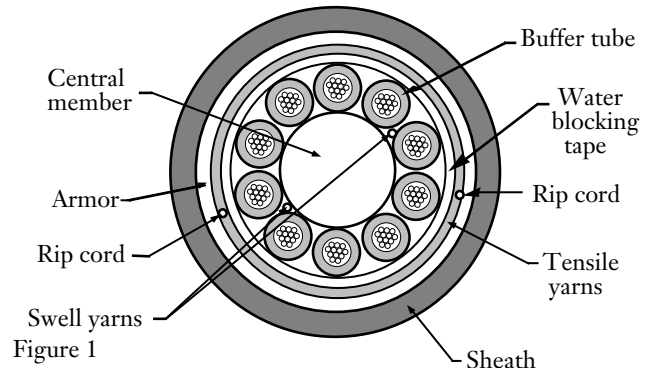

Figure 1
**1.3** Two versions of the cable are available: standard armored ALTOS cable and Lite armored ALTOS cable. (Figure 1):